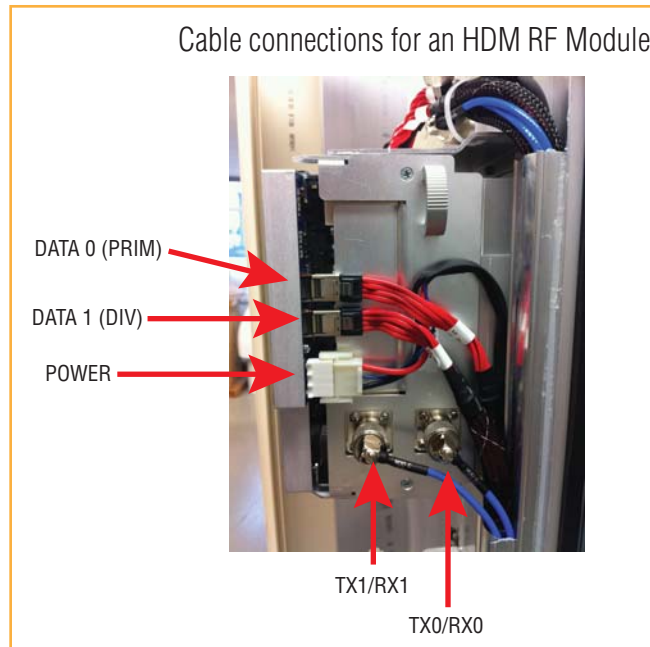

Figure 22. Cable Connections for HDM RF Modules
- HDM RF Module: Figure 22 on page 39